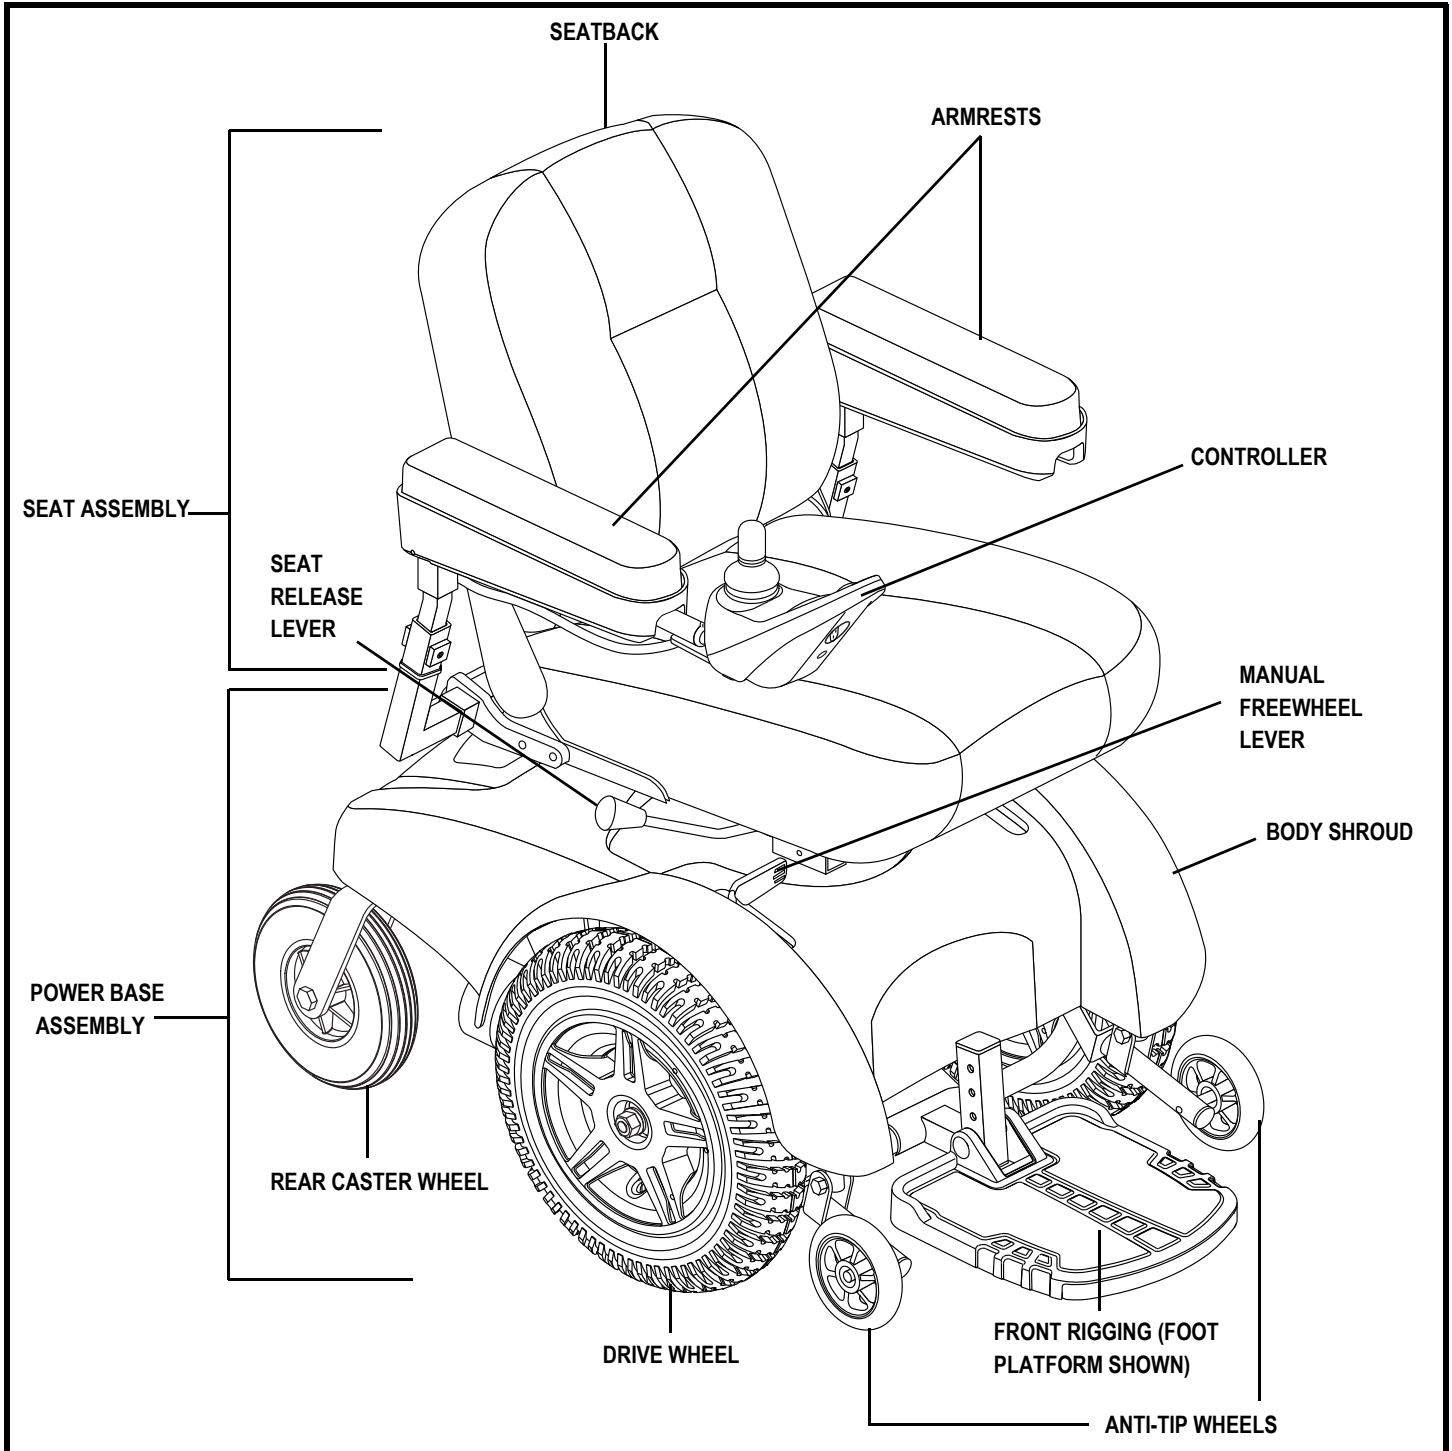

Figure 5. The Jazzy Select 14 Series Power Chair
Your power chair has two main assemblies: the seat assembly and the power base assembly. See figure 5. Typically, the seating system includes the armrests, the seatback, the seat base, and the controller. The power base assembly includes two drive wheels, two anti-tip wheels, two rear caster wheels, a body shroud, and the electrical connectors. See figures 5 and 6.
4. Disengage the seat release lever. See figure 5.